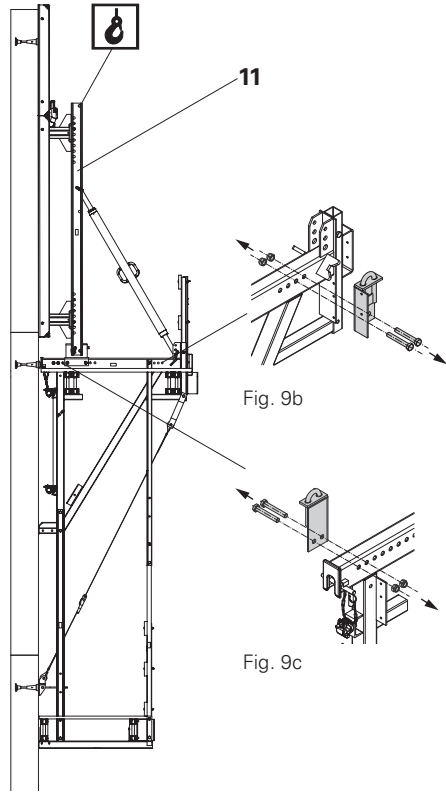

Fig. 9
- Crane slings should not be attached to the Climbing Platforms CB 160 on assembled formwork, otherwise there is a risk of tipping. (Fig. 9)
- Attach climbing formwork to be moved (moving unit comprises formwork with platform) to the top end of the strongback (11)!